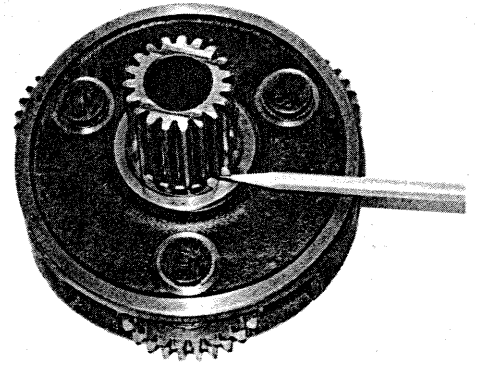

Figure 10 Assemble snap ring
**STEP 12** Assemble a snap ring into innermost groove of sun gear. Assemble sun gear splines into splines in carrier, (Figure 10).